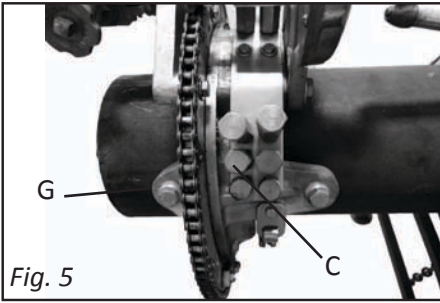

Fig. 5
1. Install (4x) spacers (C) to Compact machine mounting points. (G, Fig. 5)